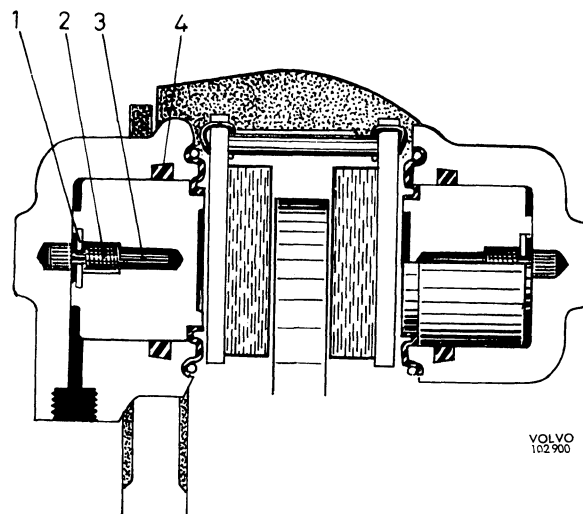

Fig. 5-15. Brake caliper with A.S.B. device
the piston (and thus also the brake pad) is pressed against the brake disc and this removes the clearance, A. If distance A is now greater than distance B, this means that the washer (1, Fig. 5-15) is pulling the spring (2) with it in the direction of the brake disc. When the brake pedal is released, the piston is moved backwards by the sealing ring (4) so that clearances A and B are restored.